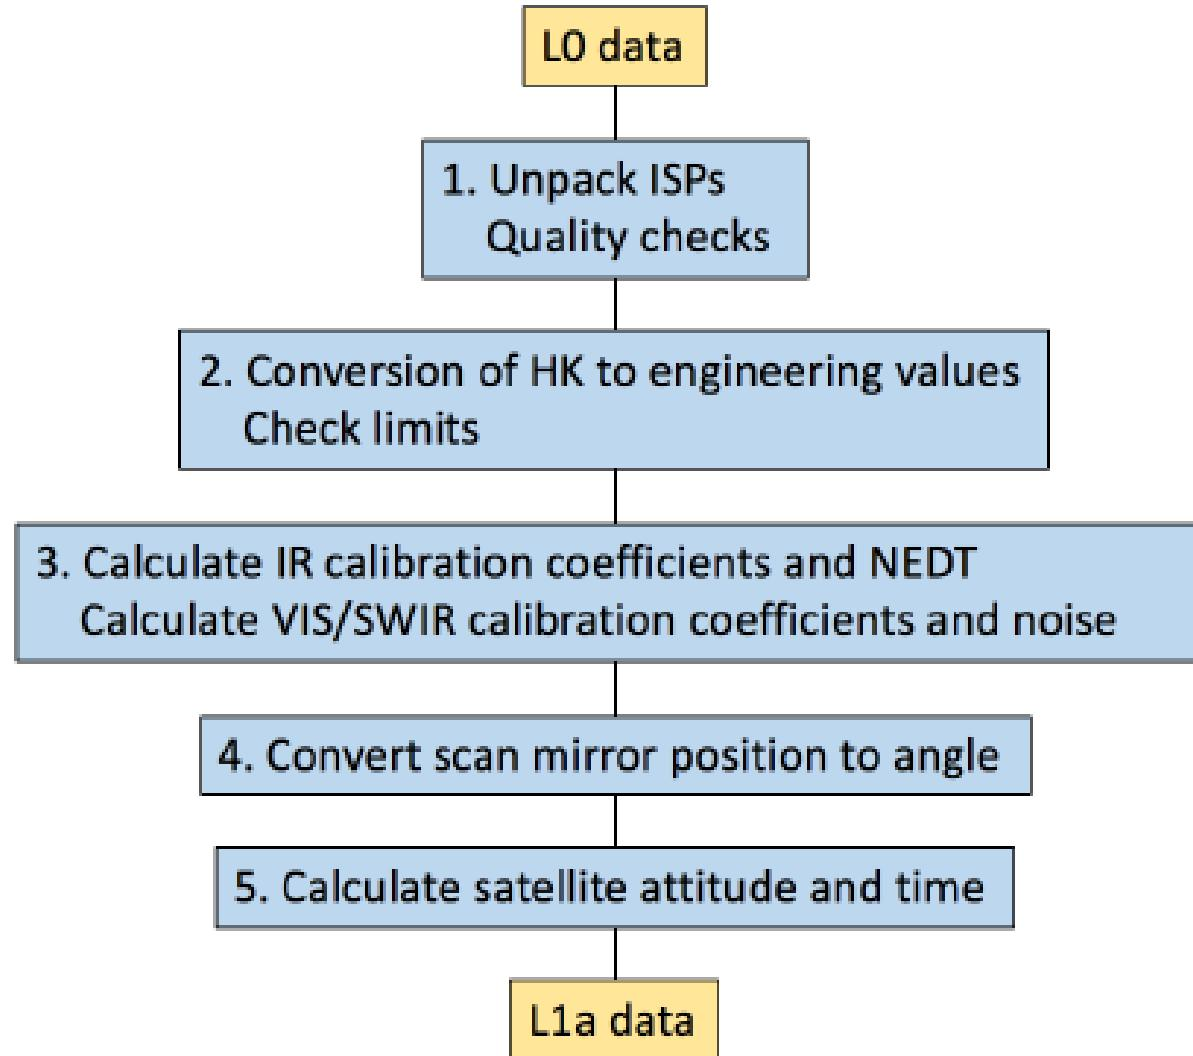

Figure 1: Level-0 to Level-1a processing steps.
Figure 1 shows a schematic of the PDGS functionalities and its interfaces with the other facilities of the core ground segment.
- The Telemetry, Tracking and Control (TT&C) ground stations — the TT&C interface between the Space Segment and the ▶ **Mission Control Centre** (Figure 1).